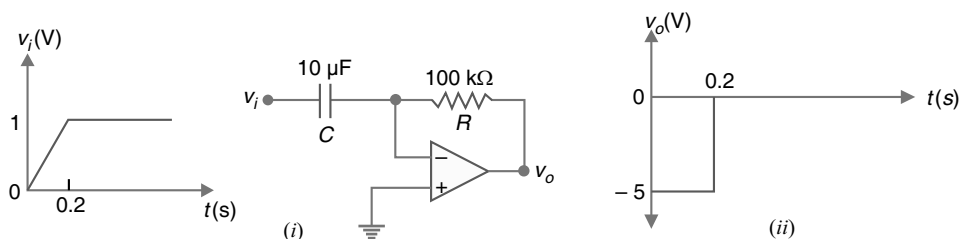

Fig. 23.92
**Example 23.56.** For the differentiator circuit shown in Fig. 23.92(i), determine (i) the expression for the output voltage (ii) the output voltage for the given input.
(i) For the differentiator shown in Fig. 23.92 (i), the output voltage is given by ;
Therefore, between 0 to 0.2s, the output voltage is constant at  $- 5 \text{ V}$ . For  $t > 0.2\text{s}$ , the input is constant so that output voltage is zero. Fig. 23.92 (ii) shows the output waveform.